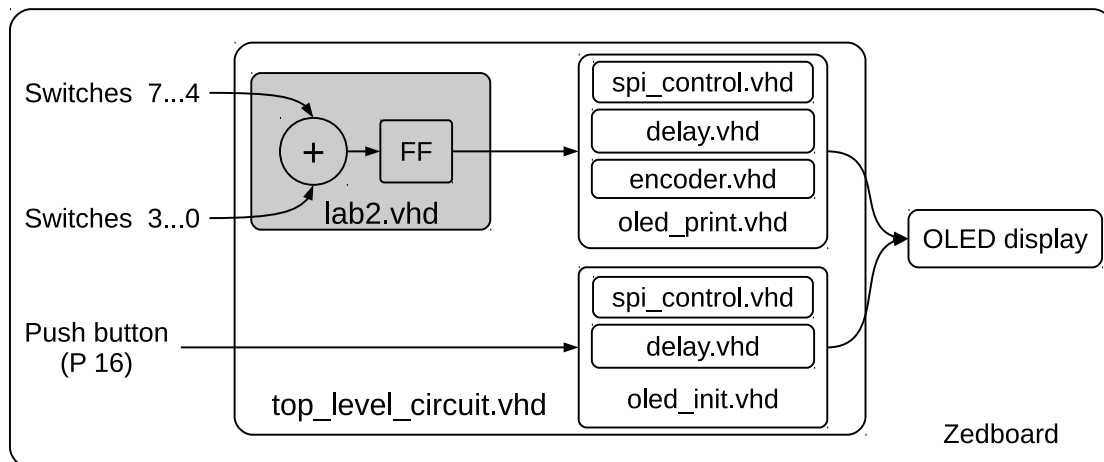

Figure 2: Circuit of interest
The circuit of interest (`top_level_circuit.vhd`) consists of three subcircuits (Figure 2):
- `lab2.vhd` is the core unit of the circuit that performs addition. It will be considered in the sections below. As can be seen from Figure 2, input numbers are set by slide switches.